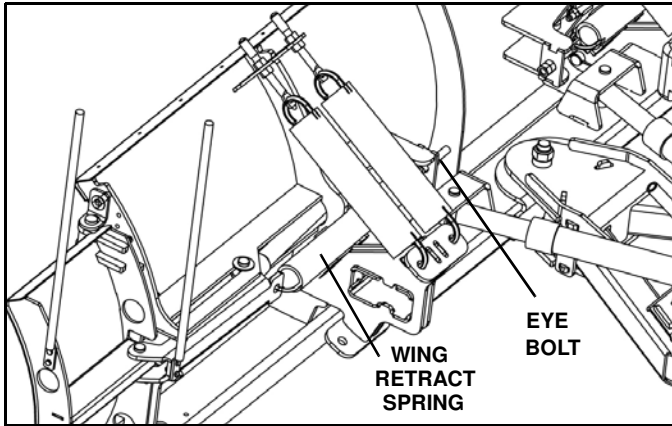

Figure 1-9
11. Install the retract spring to the wing bracket. Install the opposite end of the spring to the 5/8"-11 x 4-1/2" eye bolt on the blade frame. (See Figure 1-9).